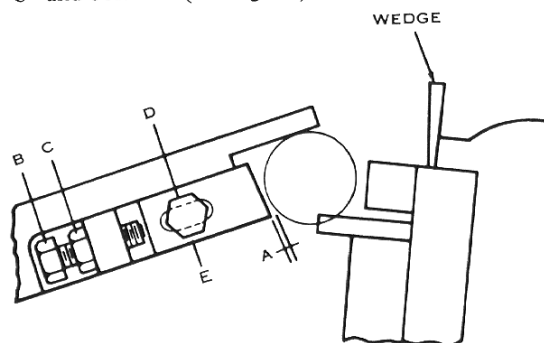

Fig. 49. Latch gap adjustment
1. Gap "A," per Fig. 49, measured between the latch stop and the cam roller must be 0.035 to 0.045 inch. This dimension should be measured with the armature fully wedged away from its bracket. If adjustment is necessary, loosen locknut "C" and bolt "D", then adjust bolt "B" to position block "E". After making adjustment, tighten locknut "C" and bolt "D" (see Fig. 49).